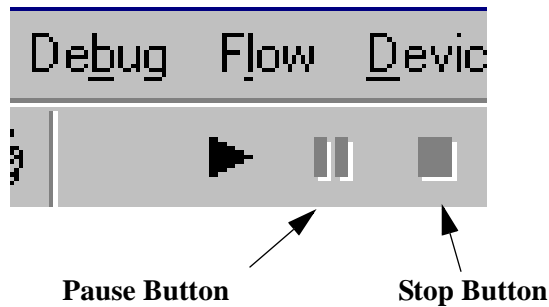

Figure 2-26. Pause or Stop a Program
- To pause or stop the program, click the **Pause** or **Stop** buttons on the tool bar, shown in Figure 2-26. (Also located in the Debug menu.)